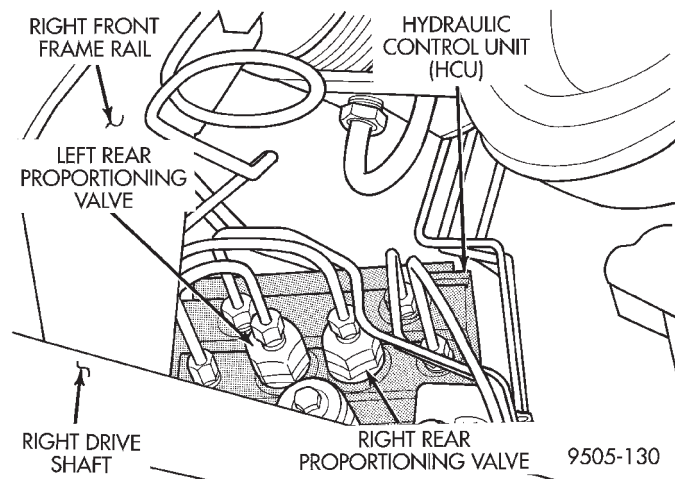

Fig. 25 Rear Wheel Proportioning Valve Location On HCU
- (1) Disconnect brake tube fitting from proportioning valve requiring removal from HCU (Fig. 25).
- (2) Remove proportioning valve requiring replacement (Fig. 25) from the HCU.